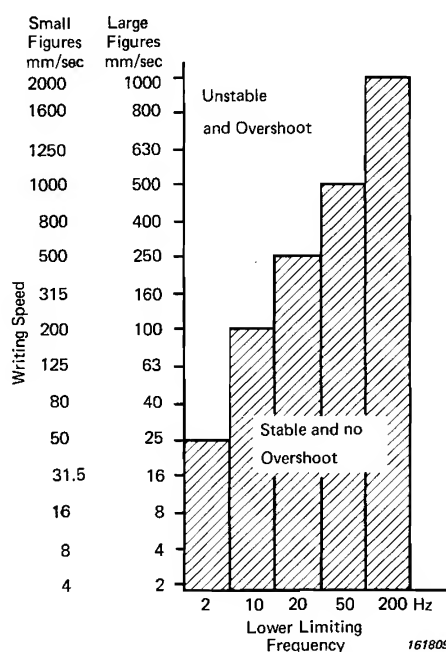

Fig.6.4. Relation between LOWER LIMITING FREQUENCY setting and WRITING SPEED setting for stable operation of the 2305 or 2307 Level Recorders
5. Set the LOWER LIMITING FREQUENCY control of the Recorder as indicated in Fig.6.4. LOWER LIMITING FREQUENCY selection should be made on the basis of stable operation of the Recorder with the WRITING SPEED setting selected in item 4.